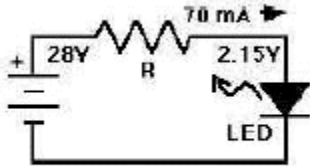

Fig 1 - LED Current limiting Circuit
A quick check of its specifications reveals that the diode drops 2.15 volts at its rated forward current of 70 milliamperes. Since the LED is a current device, you must select the proper resistor to limit the current through the device to 70 ma. from the 28.0VDC source. The resistor must also be chosen to handle the power it is dissipating. From Figure 1 we see that the resistor must drop 25.85 volts when 70 ma. is passing through it. Using equation (3) [Equations are from the February 2005 article on Ohm's Law]: